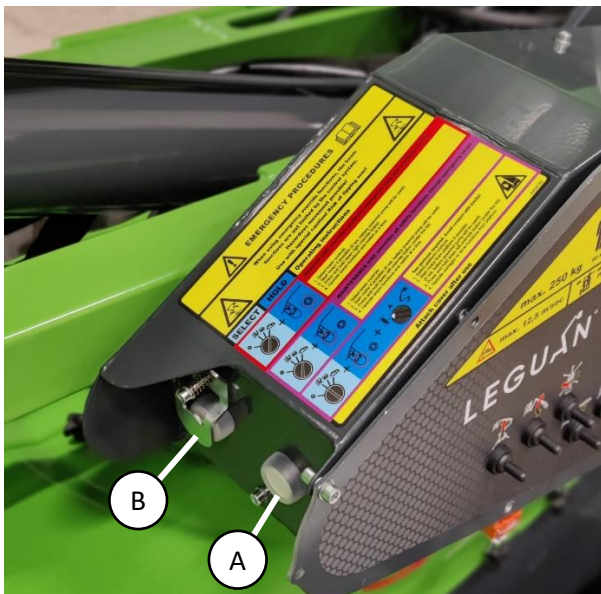

Figure 13. Override buttons
For possible emergency situations the access platform is equipped with load control and platform emergency stop button override button (figure 13 (A)). The button must only be used in **extreme emergency situations**, for example the operator has lost consciousness in the platform, the emergency stop button has been activated and the must be lowered for their safety. The platform must be moved to directions that decrease the overturning moment (towards the center of the machine). **The manufacturer is not responsible for misuse of the function!** The override button is located on the left-hand side of the lower control panel and is only operational
3. Press and hold the override button closer to the operator (figure 13 (A)).
For possible emergency situations the access platform is equipped with a safety function override button (figure 13 (B)). It enables the operation of drive, outrigger and boom functions in fault situations. The function can for example used in a situation where a sensor has broken, and the machine must be moved to a safe location to be repaired. **Use extreme caution and only in emergency situation!**
- 3. Press and hold the override button under the lid further from the operator (figure 13 (B)).